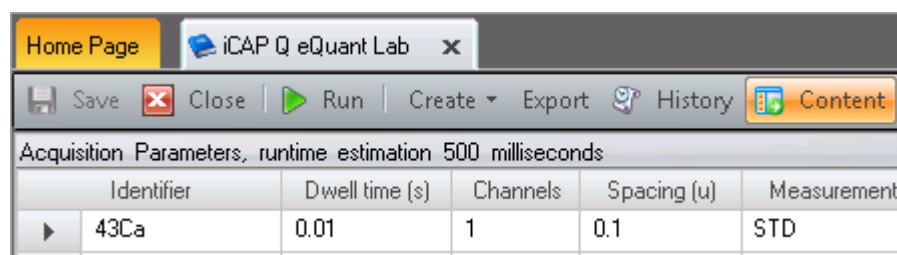

Figure 7-11. Content pane of LabBook hidden
4. Click . The **Content** pane is hidden, see Figure 7-11.